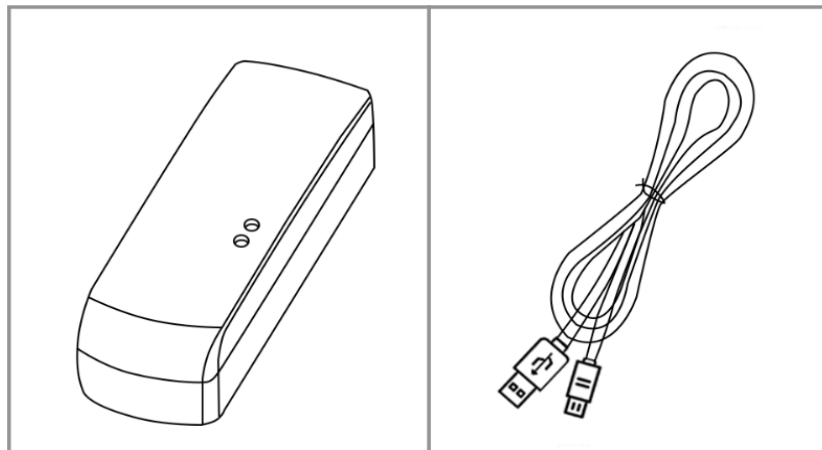

Figure 4: PC-503 USB commissioning tool and cable
2. Insert the 4 AA alkaline batteries, matching the “+” terminals on the batteries to the “+” symbols in the battery compartment, as shown in Fig. 4.